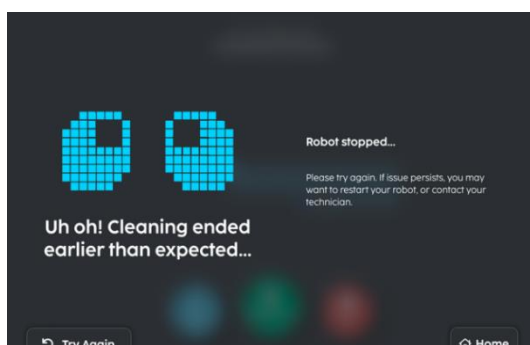

FIGURE 5-10
5. Should there be an interruption in the process the 'Cleaning Unsuccessful' screen will show (Fig 5-10)